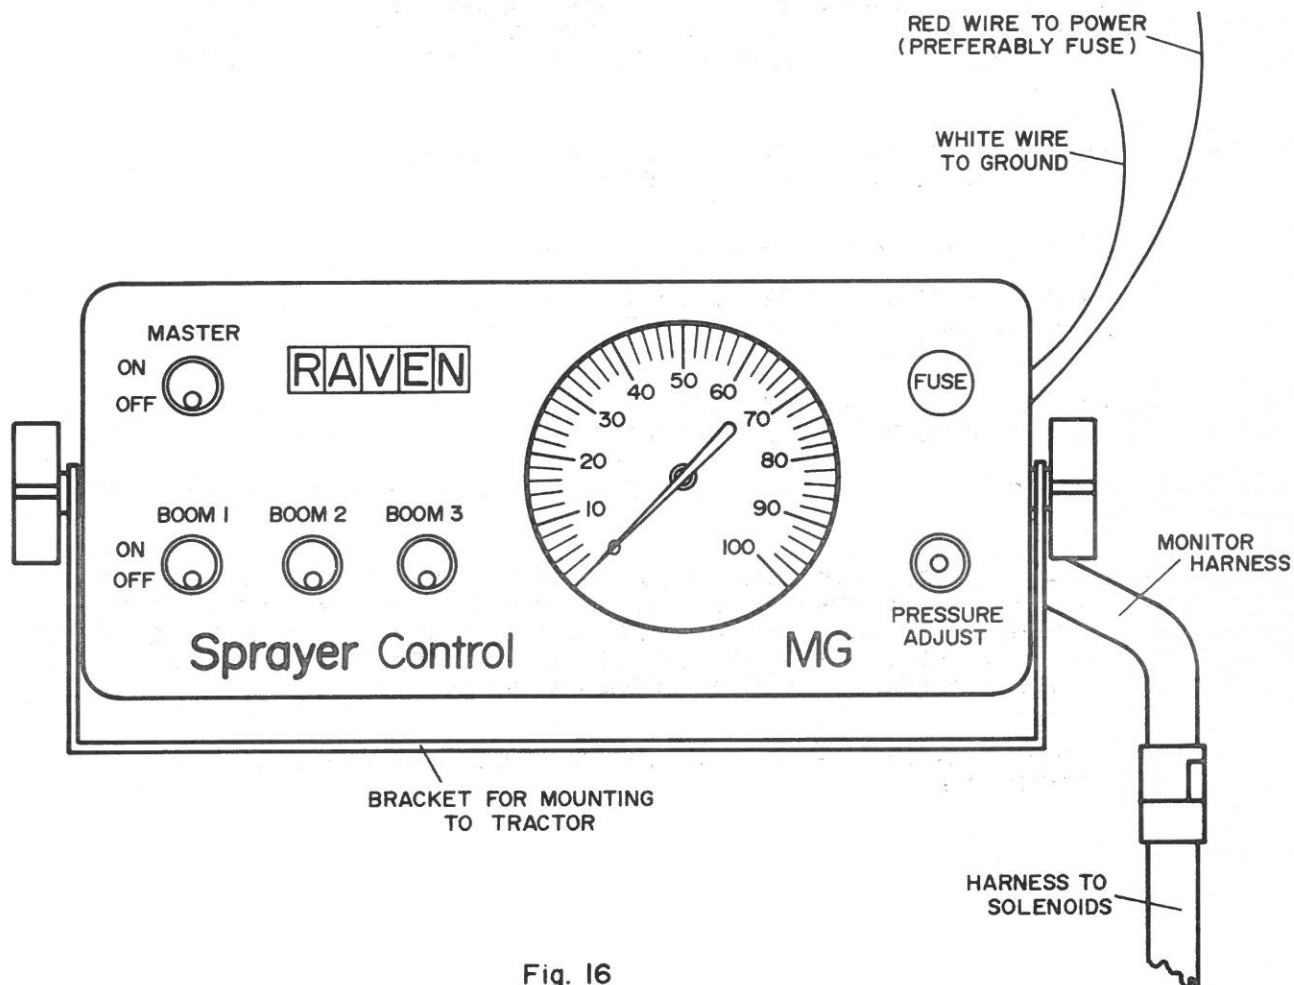

Fig. 16
STEP 15: INSTALL SPRAYER CONTROL MONITOR TO TRACTOR GROUND MONITOR BY USING WHITE WIRE, RED WIRE IS FOR POWER PREFERABLY CONNECTED TO FUSES. JOIN SPRAYER CONTROL MONITOR HARNESS TO HARNESS COMING FROM SOLENOIDS ON PUMP AND CONTROL PLATE. LONGER HARNESS IS AVAILABLE IF NEEDED. SEE FIG. 16.